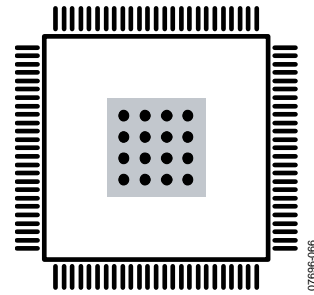

Figure 61. Exposed Pad Layout Example—Top View
- Vias should be placed to connect all layers of copper, allowing for efficient heat and energy conductivity. For an example, see Figure 61, which has 16 vias arranged in a 4×4 grid in the pad area.